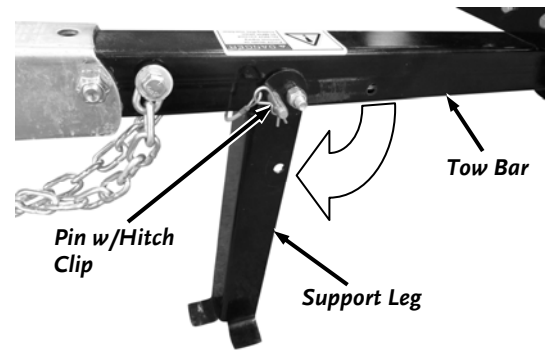

Figure 19
2. Rotate the Support Leg to the down (operating) position, align the holes in the Tow Bar and Leg, reinstall the Pin and secure with the Hitch Clip (Figure 19).